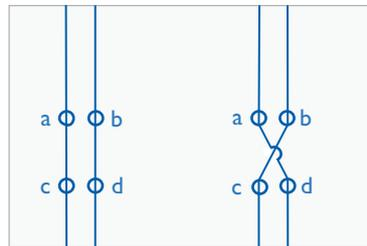

Figure 3: cross switch
- four junctions: 'a', 'b', 'c' and 'd' – see Figure 3
- parallel: junction 'a' is connected with junction 'c' & junction 'b' with junction 'd' – see the left side circuit of Figure 3
- crossed: junction 'a' is connected with junction 'd' & junction 'b' with junction 'c' – see the right side circuit of Figure 3